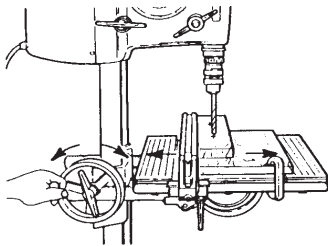

Figure D-23
3. Mark the holes on the stock, and lay it on top of the scrap. Adjust the rip fence to position the hole where you want it. Make fine adjustments with the table height crank. See Figure D-23.